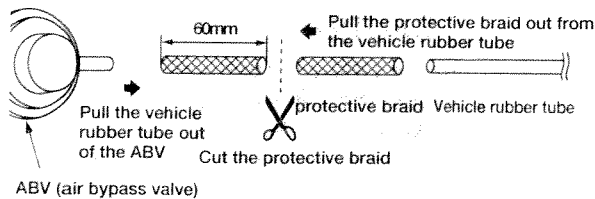

Figure 2-2
4. Pull the protective braid out from the tube. (Figure 2-2) Cut 60mm of the protective braid off.